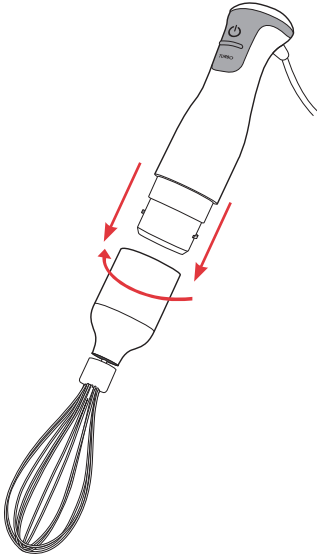

Figure 5
1. Insert the whisk attachment onto the motor base and rotate in a clockwise position until the two pieces are locked together. See Figure 5.